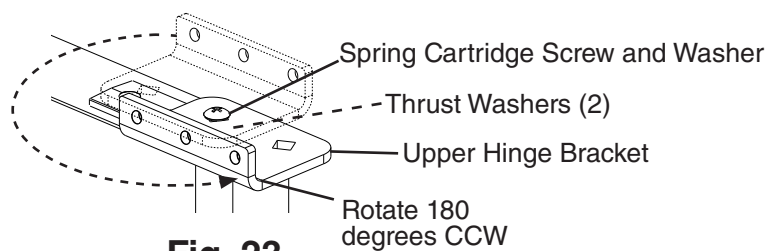

Fig. 23
- 4) Rotate the upper hinge bracket 180 degrees counter clockwise. See Fig. 23. Next, remove the spring cartridge screw and washer, then remove the upper hinge bracket and thrust washers (2). Set the door aside. Retain the upper hinge bracket thrust washers for opposite side hinge bracket installation.